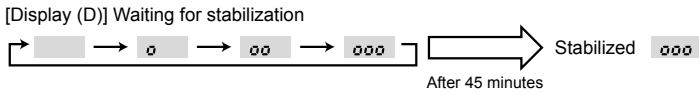

Fig. 8-3
(3) Press **FILTER** (**←**) button to confirm. (Fig. 8-3)